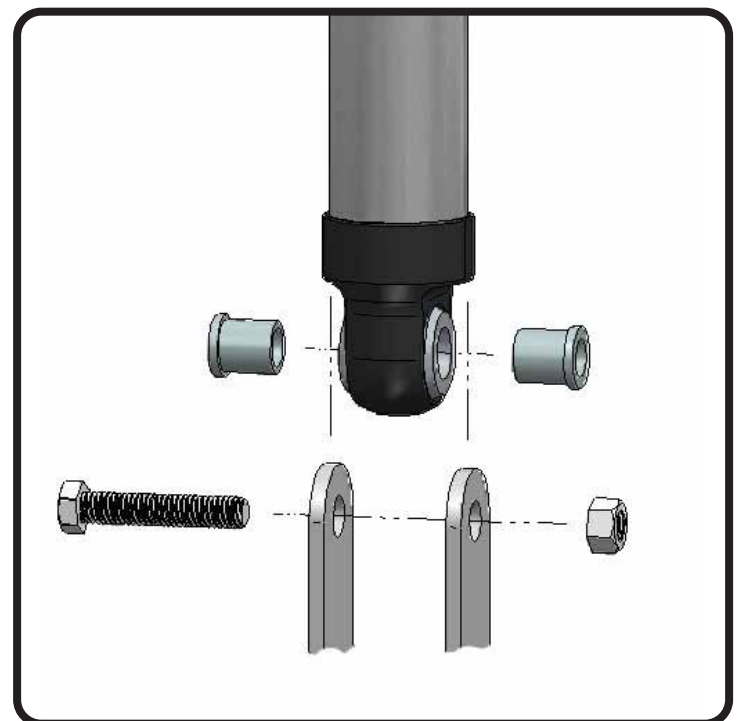

Figure 2
4. Attach the shock body and eyelet to the OEM frame mounts. Use the OEM hardware to attach the shock (Figure 2).